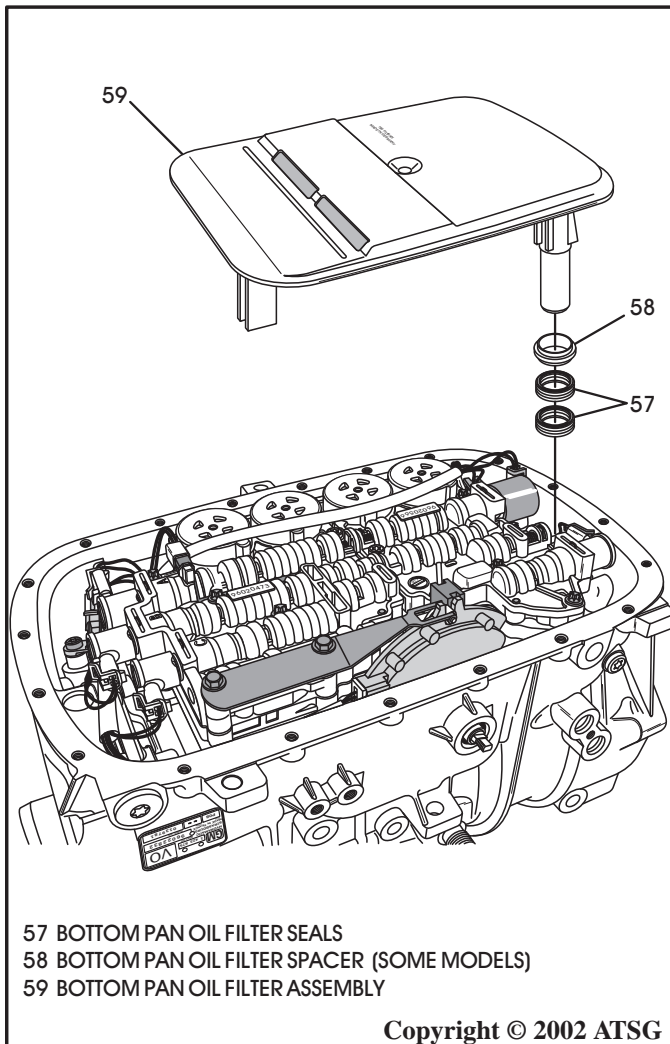

Figure 204
14. Install the bottom pan filter, filter seals and the filter spacer, as shown in Figure 204.